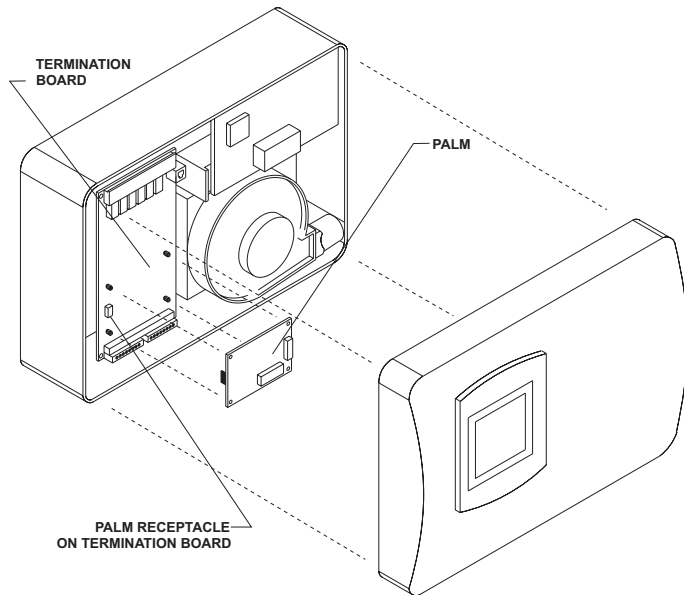

Figure 4-7. PEGAsys Addressable Loop Module Installation Diagram
The instructions below are used to install the optional PEGAsys Addressable Loop Module (PALM). Installation consists of mounting the module to the termination board in the Detector and wiring the module to the system (see Figure 4-7).
3. Attached to the PALM are four nylon mounting posts which are held in place by four nuts that are inserted on the posts (see Figure 4-7). Ensure that these nuts are only finger tight.
5. Place the PALM over the termination board in the Detector. Align the mounting posts with the four PALM mounting holes on the termination board. This will also align the receptacle on the underside of the PALM with the connector P4 on the termination board (see Figure 4-7 for location of mounting holes).